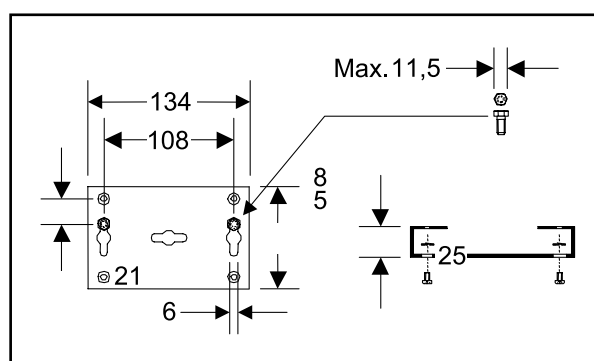

Fig 6 Standard Intellivox wall bracket, all dimensions in mm.
1. The first (and most often used) mounting method of the Intellivox is by means of two or three (depending on the model) identical wall brackets. The brackets are supplied with each Intellivox and come in the same color as the enclosure. A technical drawing of the bracket is shown in Fig 6. The brackets allow mounting of the Intellivox on a straight wall or on a curved surface (pillar) while keeping a distance of 25 mm (1.0") between the rear of the enclosure and the wall. Refer to chapter 2.5.3 for the standard mounting procedure details.
2. Drill the holes for attachment of the brackets into the wall. It is advised to make use of the slotted holes (two for each bracket, refer to Fig 6) for standard vertical mounting of the column.